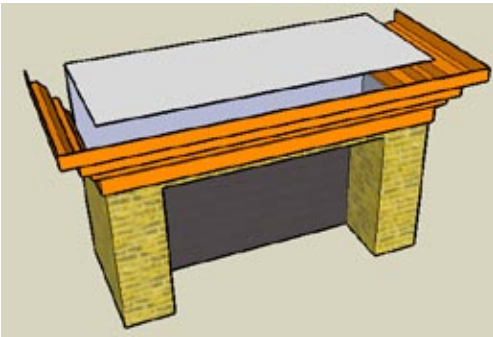

Figure 2-15
4. Preselect the Follow Me path by selecting the front and side edges of the fireplace. Then activate Follow Me and click the mantel face. The faces of the completed mantel shape are correct, but the top face of the fireplace is cut, and the mantel is hollow (Figure 2-15).